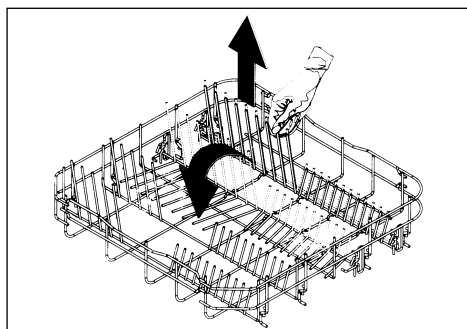

fig. 12
- The plate racks can be flipped upwards (see fig. 12), depending on the model.